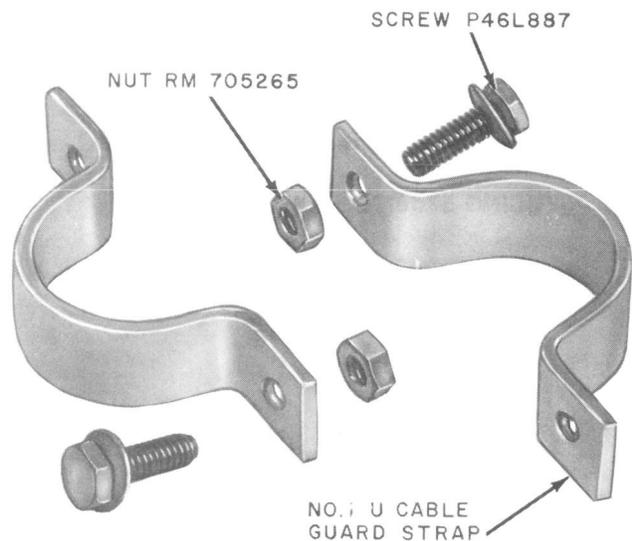

Fig. 2—197A Adapter
2.02 Each stub is furnished with a 197A adapter (Fig. 2) to support the terminal and stub beneath the main cable. When the through cable is larger than 1-3/8 inches in diameter, No. 2 U cable guard straps should be used.